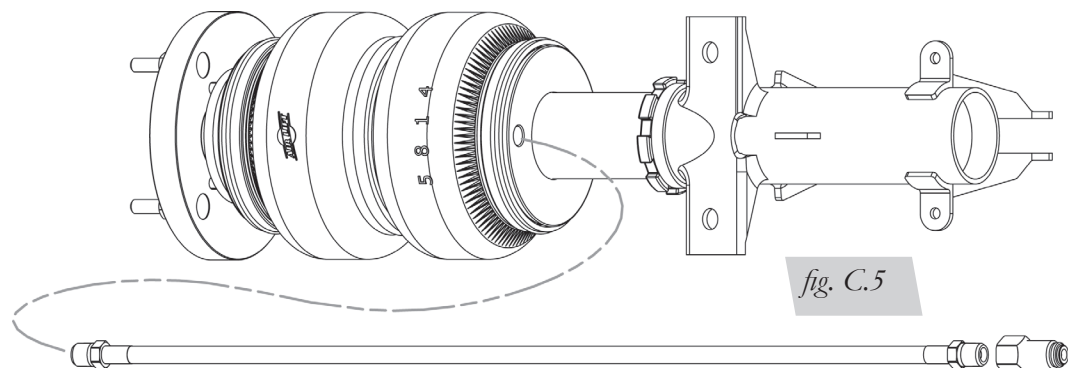

fig. C.5
1. Begin by installing the leader hose into the air spring. Apply thread sealant to the threads of the leader hose. Tighten the appropriate fitting to the airline (1 3/4 turns beyond hand-tight). Tighten the leader hose into the air spring 1 3/4 turns beyond hand-tight. (Fig. C.5).